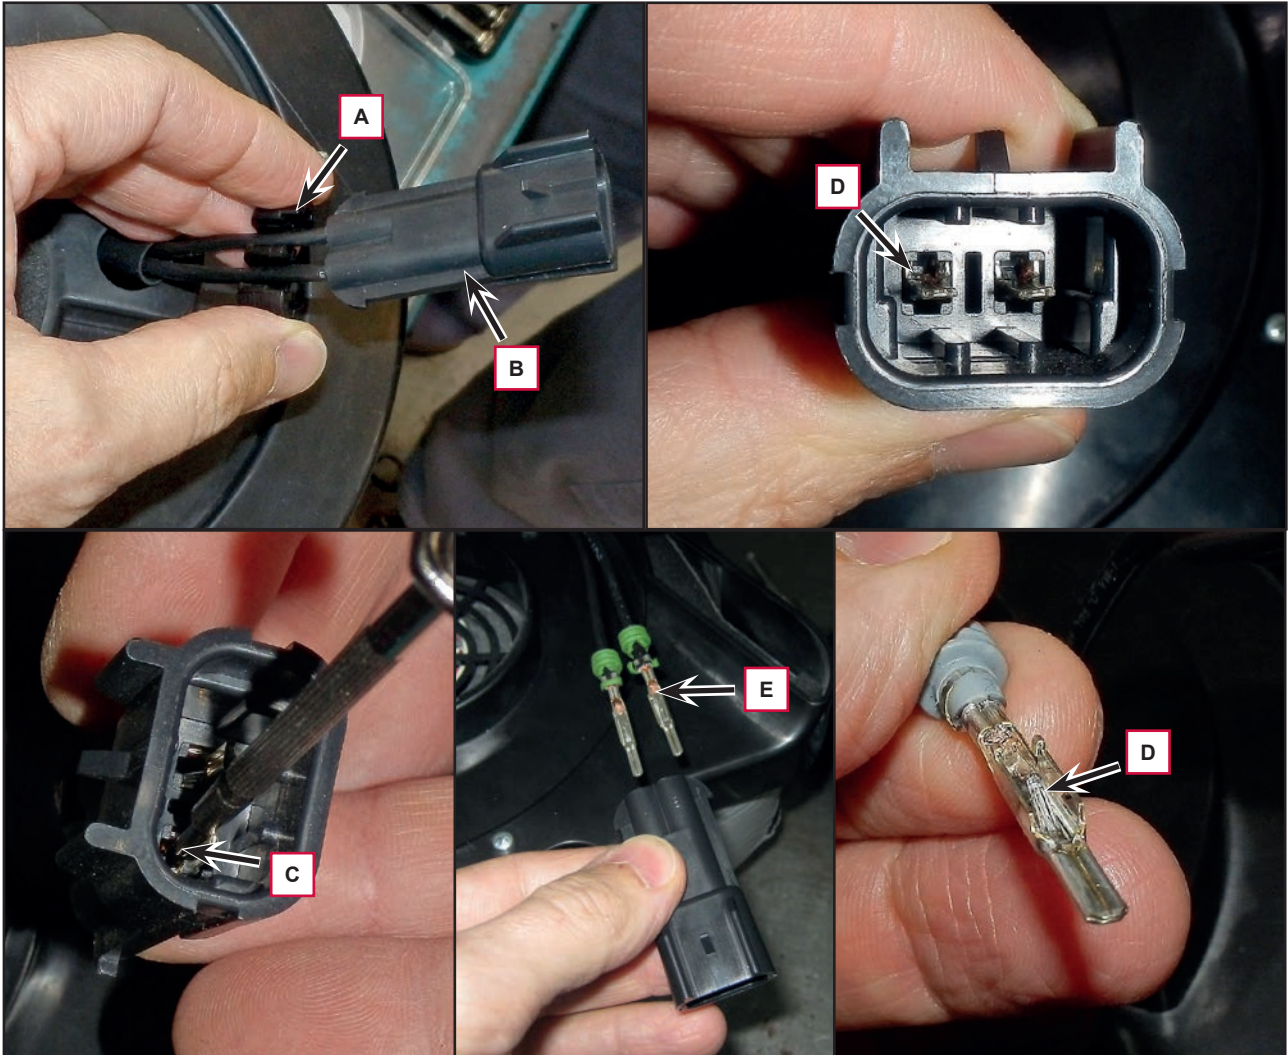

Figure 7
2. At the workbench, remove the terminals lock (A) (Figure 7) from the connector (B).
3. With a little screwdriver (C) move the splane lock (D) for disengaging the terminals from the connector.
4. Remove the two terminals (E).
5. Carefully, slightly lift the splane lock (D), previously pressed, to restore it.